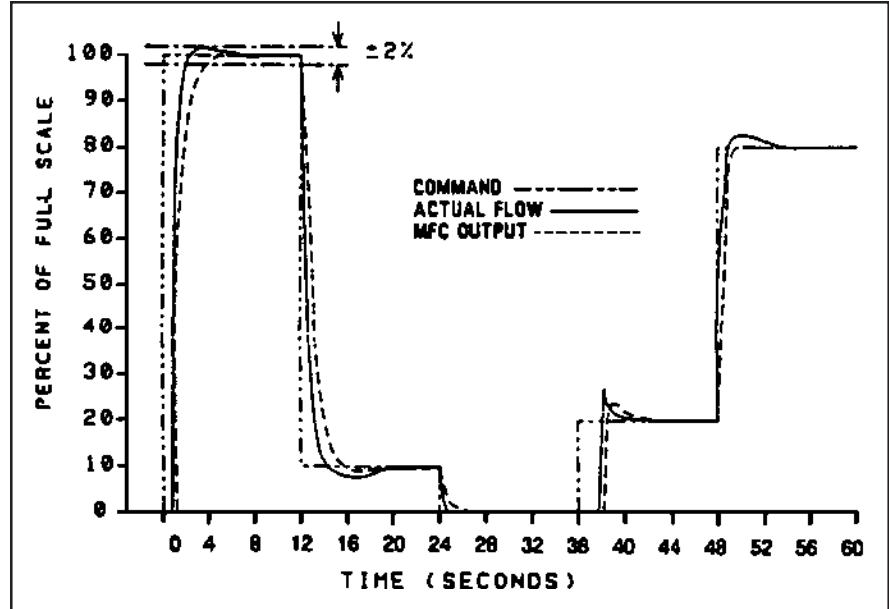

Figure 1-1 Command Steps, Soft Start Disabled
-FAST RESPONSE CONTROL permits rapid gas settling times with little or no over/undershoot. Refer to Figure 1-1.